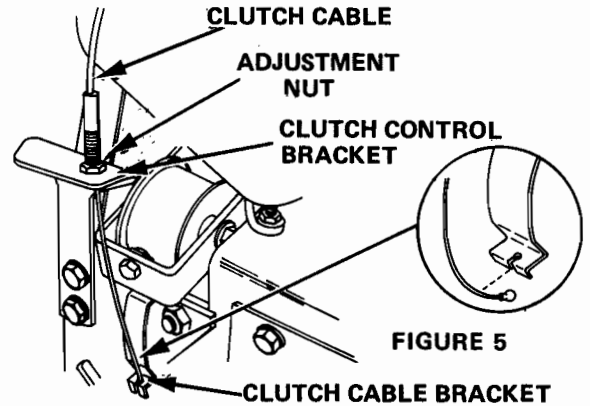

FIGURE 5
b. Model 902012 - The clutch cable is supplied installed on the swing handlebars. Remove one of the hex nuts from the end of the cable. Insert the end of the clutch cable into the clutch control bracket. Replace the hex nut. Connect the clutch cable to the clutch cable bracket. Adjust the hex nuts up or down until the clutch handle pulls the idler tight against the belt when depressed and permits the idler to fall away from the belt when released. Tighten the hex nuts to secure the cable. See Figure 5.